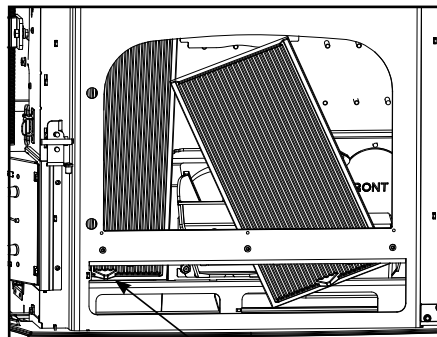

Figure 5.4a
4. Tip the top of the heat exchanger toward the door opening until it can be lifted up and out. Figure 5.4a